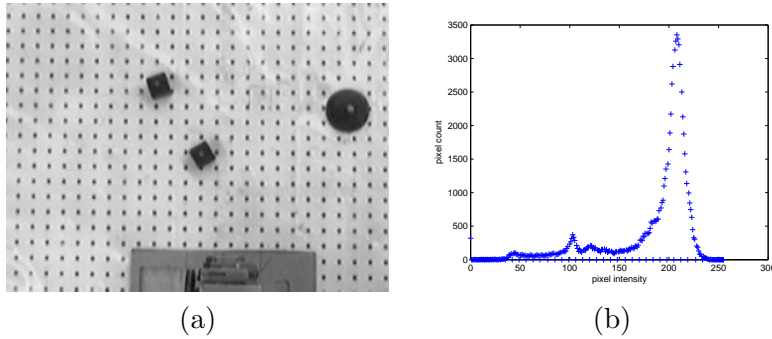
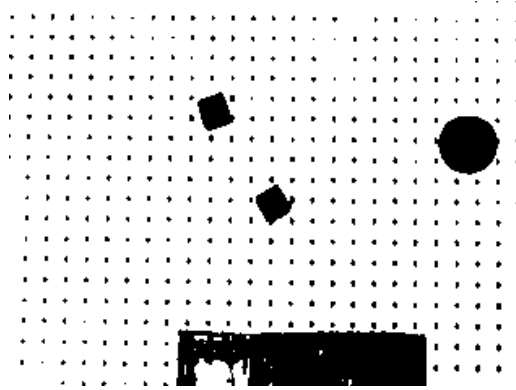

Figure 5.1: A sample image of the tabletop (a) the grayscale image (b) the histogram for the image.
Figure 5.2: Sample image after thresholding.
4. We will first need to build a histogram for the grayscale image. Define an array H with 256 entries, one for each possible grayscale value. Now examine each pixel in the image and tally the number of pixels with each possible grayscale value. An example grayscale image and its histogram are shown in Figure 5.1.
6. Again, consider each pixel in the image and color it white if $z > z_t$, black if $z \leq z_t$. Figure 5.2 shows the same image from Figure 5.1 (a) after thresholding.